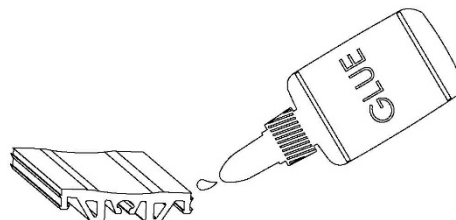

Figure 3
3. Apply super glue, cyanoacrylate type (non-gel) or similar adhesive (by others) and follow instructions by the adhesive manufacturer. **See Figure 3**